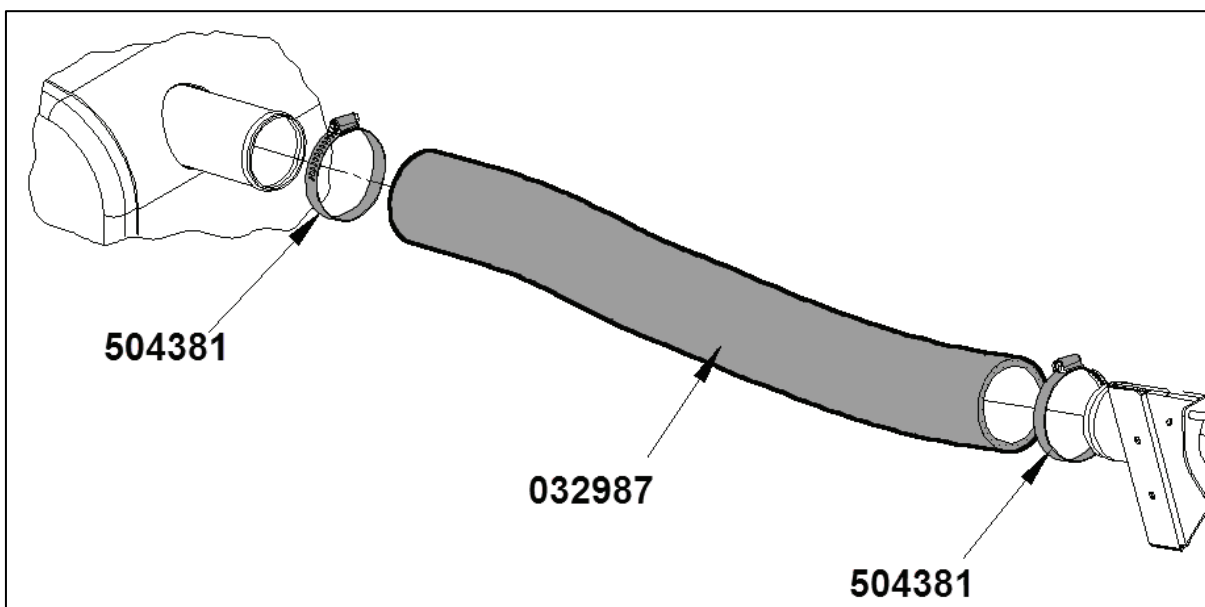

Figure 12
17. Connect the long end of the ground wire to the ground stud on the fuel tank (Fig. 12). Use M8 nut provided.